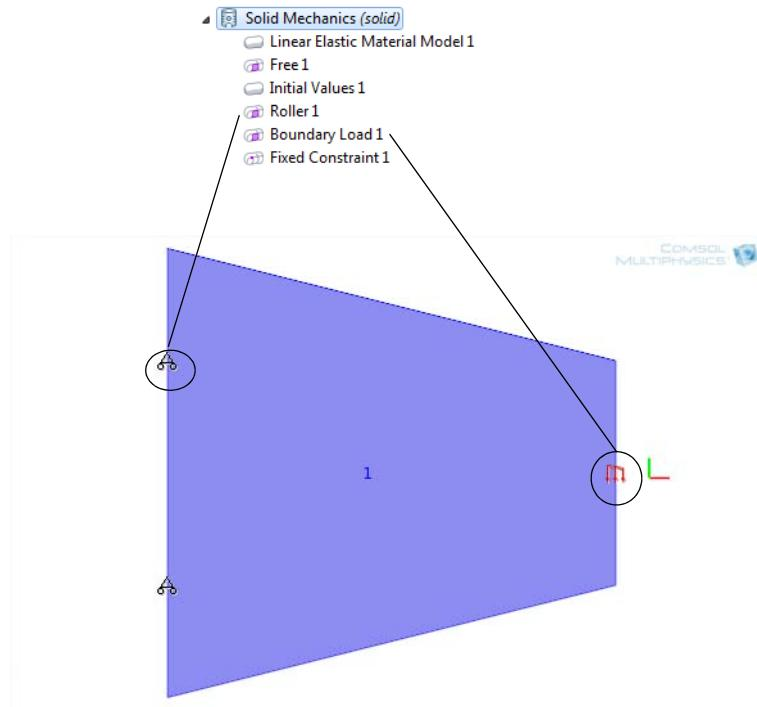

Figure 14-6: Example of Roller and Boundary Load physics symbols as displayed in the COMSOL Multiphysics Model Library model Tapered Membrane End Load.
- 5 After assigning the boundary condition to a geometric entity, to display the symbol, click the top level physics interface node and view it in the **Graphics** window. See Figure 14-6.